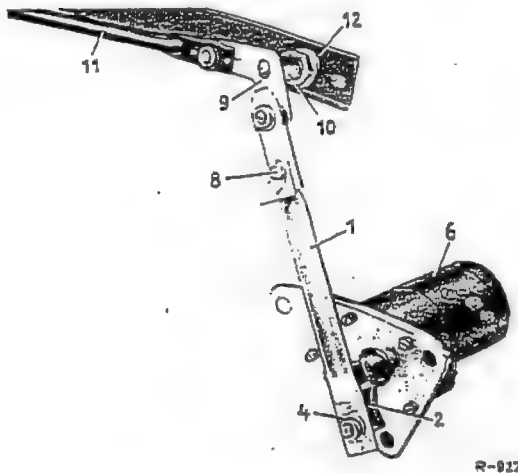

Fig. 82-4/1
2. Detach the short link (1) from the motor crank (2) by removing the snap ring and the washer (4) (Fig. 82-4/1).